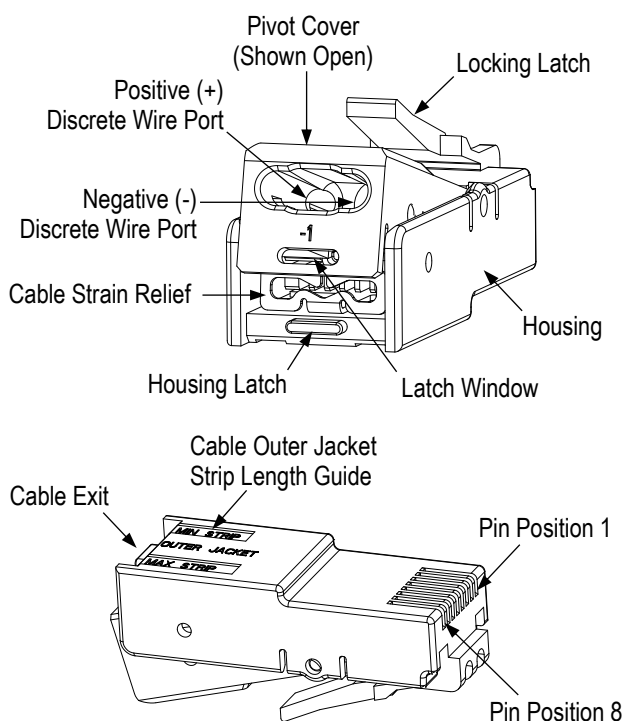

Figure 1
Each connector consists of a housing with 2 contacts and a pivot cover. See Figure 1 for features.
- Ensure that the connector pivot cover is in the open position (see Figure 1) then, align the discrete wires with the discrete wire ports of the connector as follows: